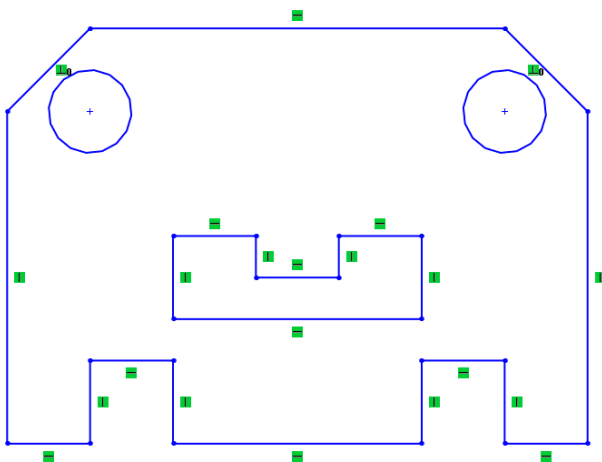

Figure 2-74 Final sketch for Tutorial 4
- 13. Choose the **Zoom to Fit** button from the **View (Heads-Up)** toolbar to fit the display of the sketch into the screen. The final sketch for Tutorial 4 is shown in Figure 2-74.